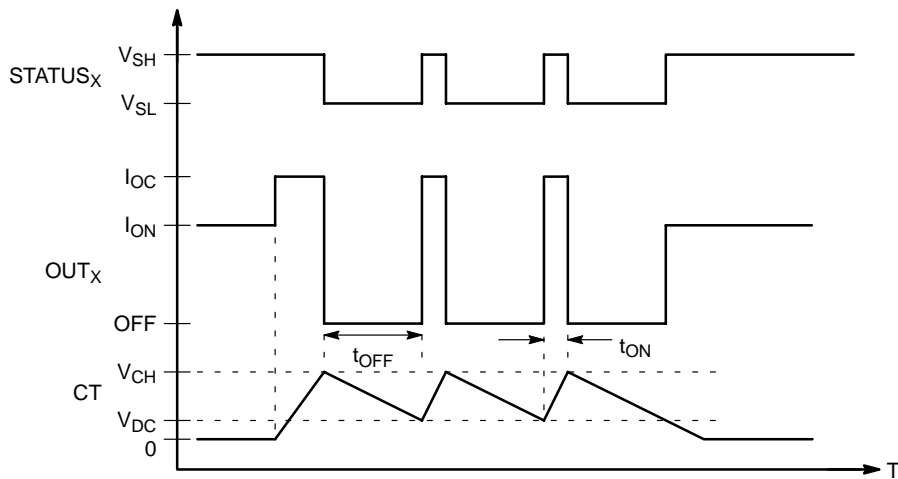

Figure 5. Overcurrent, Status and Duty Cycle Timing
9. During overcurrent, the STATUS outputs will be modulated at the overcurrent duty cycle rate. See Figure 5.
Overcurrent detection circuitry is provided in both the low-side and high-side drivers of each half-bridge output. When activated, the overcurrent detectors trigger an internal timer which causes both half-bridge drivers in the same channel to be modulated at 4% (Typ.) duty cycle. The timer also activates the channel's STATUS output, causing it to be similarly modulated (see Figure 5.) Upon removal of the fault condition, the channel automatically resumes operation in its previously programmed mode and its STATUS output returns to a no-fault state.
current I_{DCH}. Upon detection of overcurrent, charging current I_{CHG} is switched on and the C_T capacitor begins charging from zero towards the timer's upper threshold (V_{DH}). When the capacitor voltage crosses V_{DH} the faulted channel's outputs are switched off and the channel's STATUS output is switched from V_{SH} to V_{SL} (see Figure 5.) The charging current is switched off, and the capacitor voltage decreases toward the timer's lower (V_{DL}) threshold. Upon crossing the lower threshold, the channel's outputs are switched on and the channel's STATUS output returns to its V_{SH} voltage. This behavior continues until the fault condition is resolved. If the fault condition is resolved before V_{DH} is reached, the timer is reset and no modulation of the previously faulted channel's half-bridge or STATUS outputs occurs.